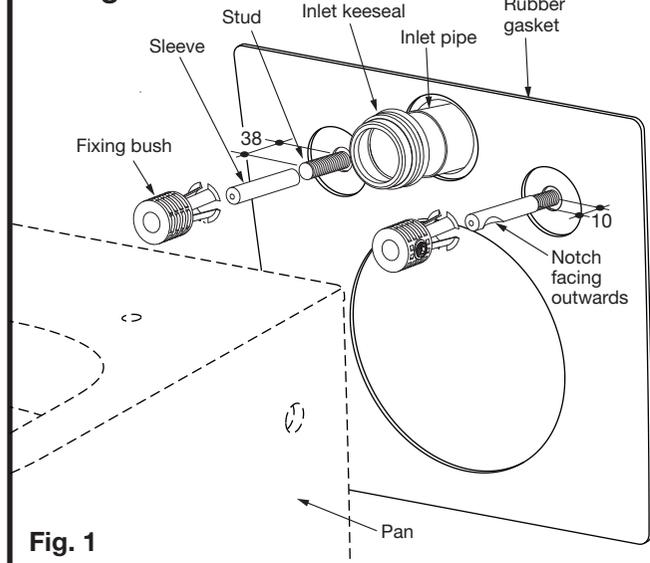

Fig. 1
- 3 - Set the length of the fixing studs 38mm from the finished wall surface, as detailed in **Fig. 1**.
- 8 - Fix the mounting sleeves onto fixing studs so that 10mm of thread is exposed in front of the gasket, as detailed in **Fig. 1**.